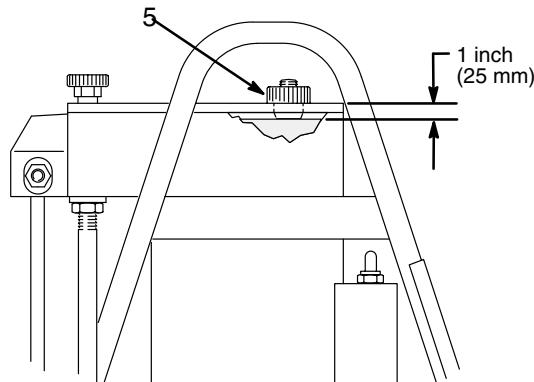

Fig. 1
4. **Check the hydraulic oil level.** Unscrew the fill cap (5). The oil should be 1 inch (25 mm) from the top of the plate. If the oil is lower, fill as necessary with lightweight hydraulic oil; use only Graco Hydraulic Oil, Part No. 218-797. Install the fill cap. See Fig. 1.